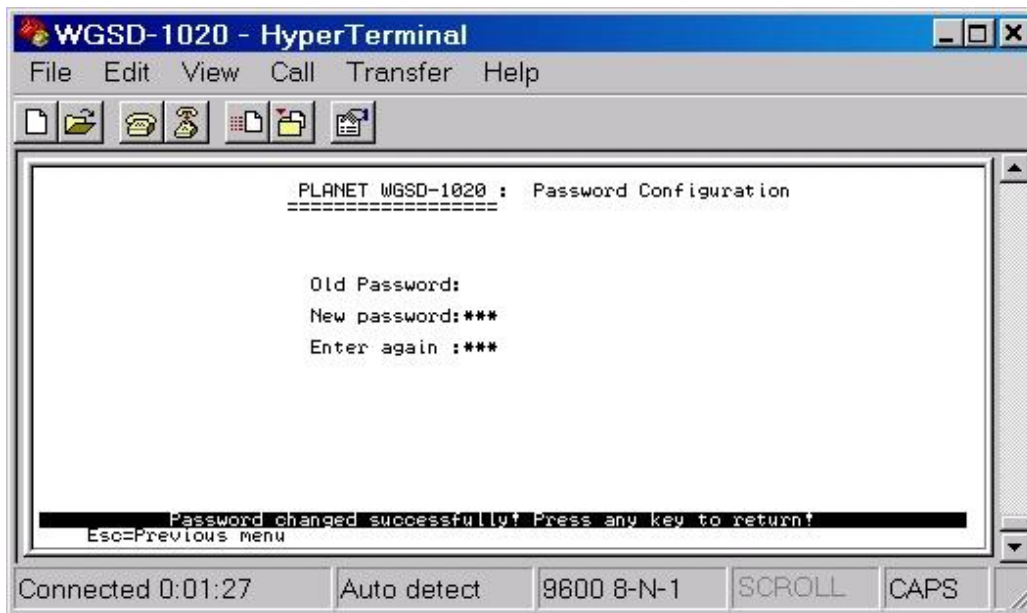

Figure 4-16 Password Configuration screen
4. Press "Enter" to apply the new password.( see the Figure 4-16)